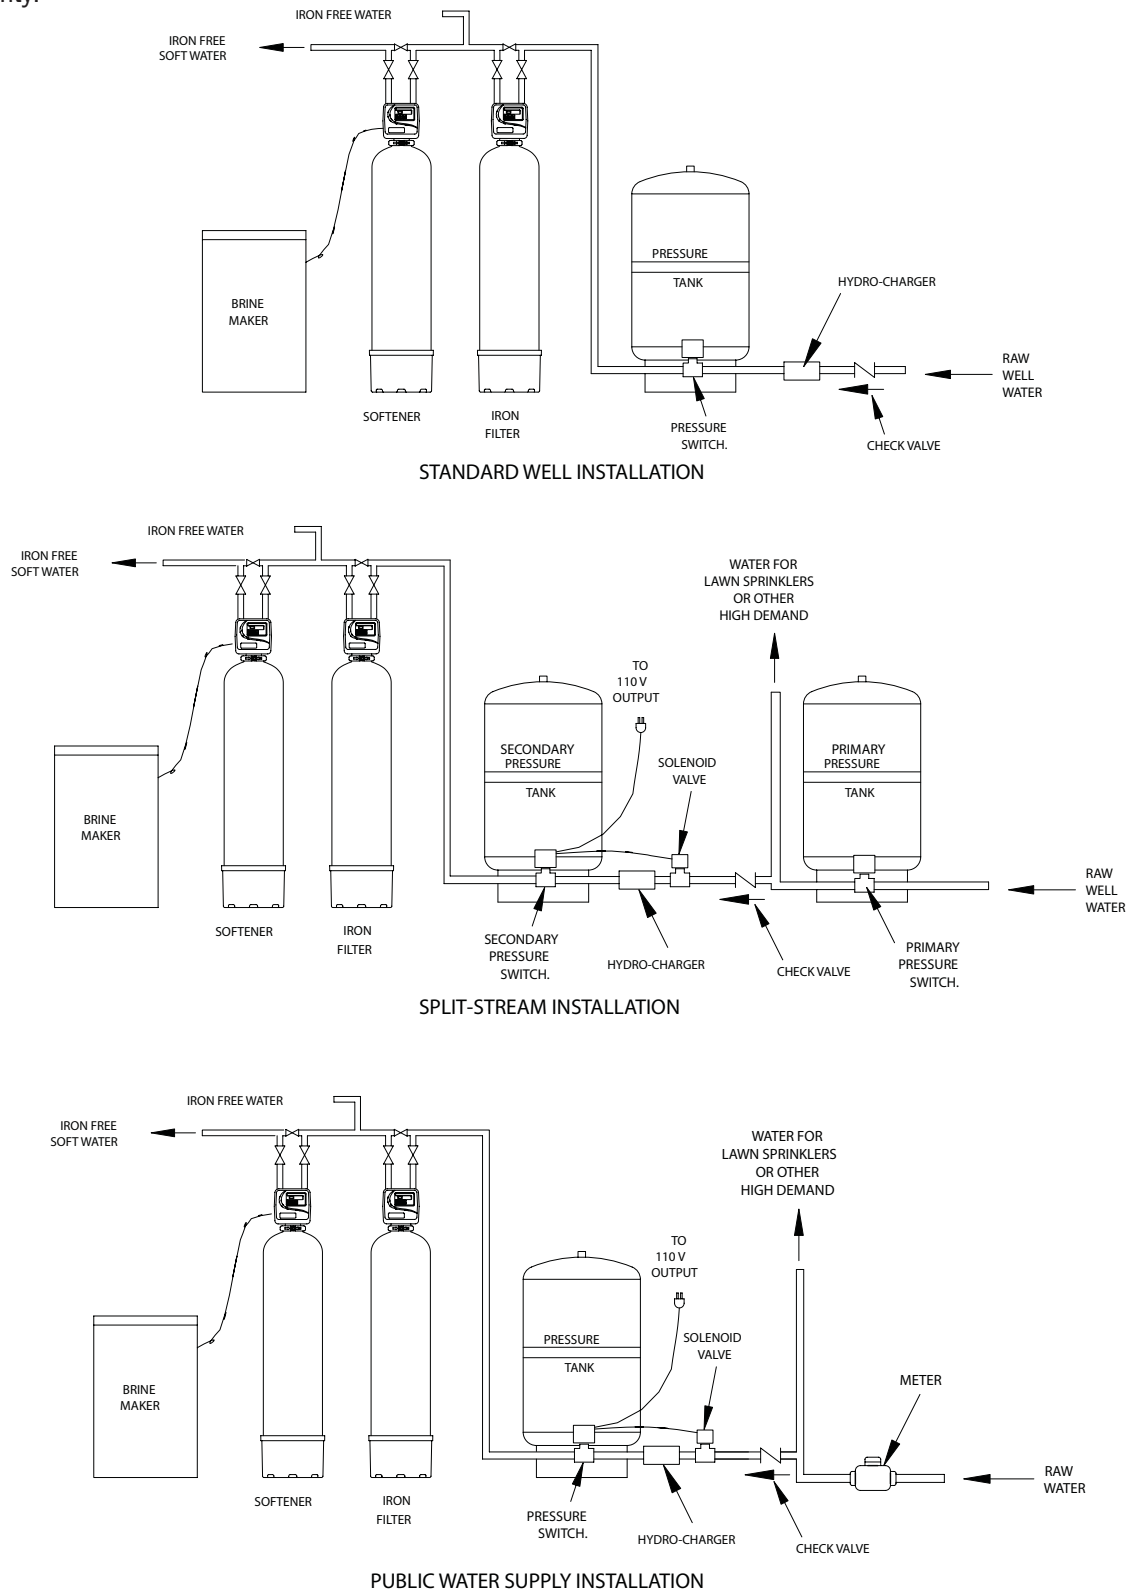
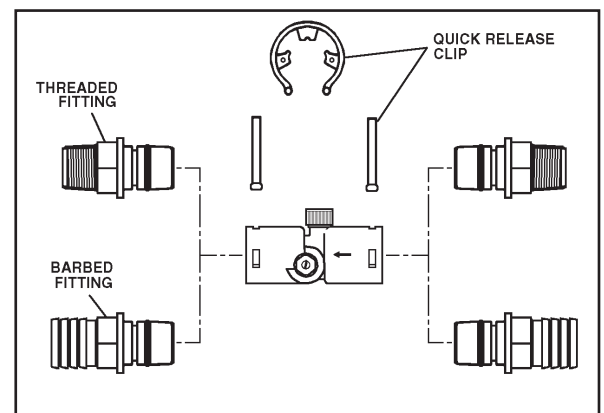

Figure 1
Figure 2: HYDRO-CHARGER INSTALLATION
- 3) Locate in correct relationship to other water conditioning equipment (See Figures 1, 3 or 7 in Sec. 3)
- 5) Before commencing the installation, it is advisable to study the existing piping system and to determine the size, number and type of fittings required. Typical system schematics shown in these instructions (Figures 1) will be of assistance.
Cut main supply line as required to fit Hydro-Charger in plumbing between well pump and pressure tank (Hydro-Charger may be installed in a vertical or horizontal position). The Hydro-Charger has been supplied with both 1" threaded and 1" barbed (insert) fittings to allow for installation with various types of piping materials. When using the threaded nipples, use thread tape only. When using barbed (insert) fittings, appropriate pipe clamps must be used. Once installed the quick release nipples allow the Hydro-Charger to be rotated, so the air draw adjustment screw is accessible for adjustment by a small bladed screwdriver. Allow at least 10 inches of straight run of 1" pipe on both INLET and OUTLET side of the Hydro-Charger. Refer to Figure 2 for correct assembly. The quick release nipples also acts as a union to facilitate the Hydro-Charger removal, inspection and cleaning as needed. With an installation on PVC pipe and copper tubing it may require the addition of a normal plumbing union to aid in removal from the plumbing due to the rigidity of that type of material. Make certain the directional arrows on the Hydro-Charger points toward the pressure tank and the pressure control switch is located on the pressure tank side of Hydro-Charger as in Figure 1. Rapid cycling of pump may occur if the pressure control switch is located on well side. If a check valve is located between hydrocharger and pressure tank, it may prevent the Hydro-Charger from performing properly. Relocate to well side of Hydro-Charger.
- **If installation is to be split streamed prior to filter vessel or is it a public water supply (see figure 1), or refer to special instructions on page 3-13.**